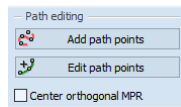

Figure 315 – Path defining tools
The CPR path is represented by a Bezier curve, interpolating defined 3D points (key points). The number of key points is unlimited. Any changes performed to the CPR path are immediately reflected by CPR view. TomoCon provides two different modes for defining the CPR path key points (see Figure 315):
When adding a new or editing existing key point, it may be useful to move all orthogonal MPR planes to that key point, to make following adjustments easier. To do so, check **Center orthogonal MPR** check box (see Figure 315). When a new key point is added to the path or some path's key point is moved, each orthogonal MPR plane is automatically moved so that the key point lies on it.
1. Click  **Add path points** button (see Figure 315). The path is displayed in red.
1. Click  **Edit path points** button (see Figure 315). Path is displayed in green.
1. Click  **Edit path points** button (Figure 315). Path is displayed in green.